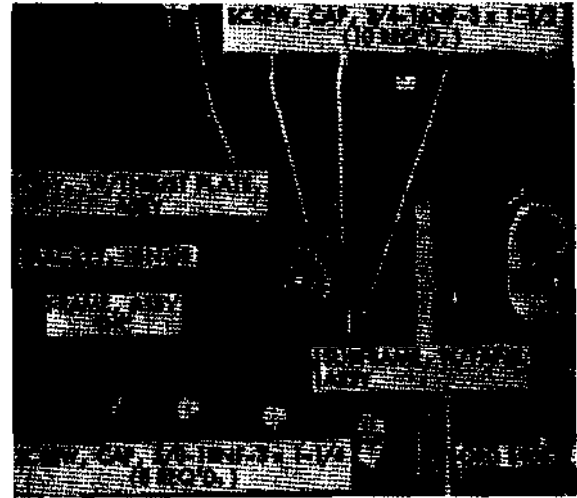

Figure 69. Dump body hinge bracket and subframe to rear frame disconnect points.
- (4) Remove five capscrews, hex-nuts, and lockwashers from each hinge bracket (fig. 69). Attach a chain hoist and remove dump body assembly.
- (3) Aline the hinge brackets with dump body and install the five capscrews, lockwashers, and hex-nuts at each hinge bracket (fig. 69). Tighten securely.